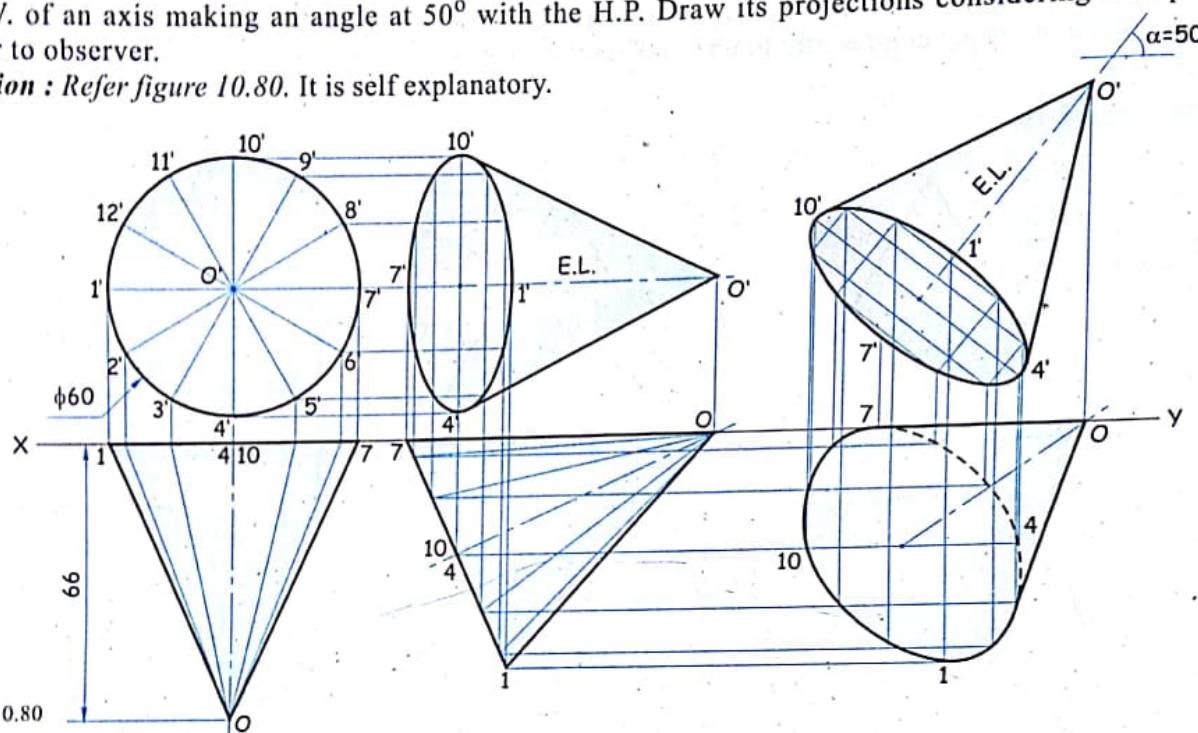

FIG. 10.80
**Solution :** Refer figure 10.80. It is self explanatory.